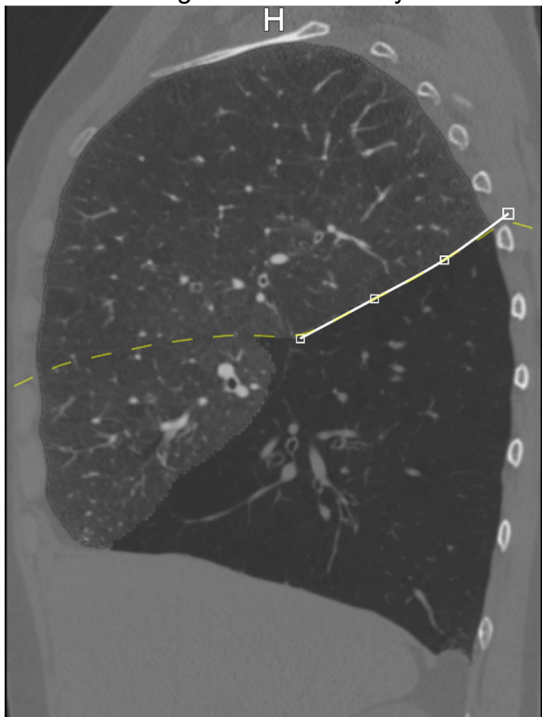
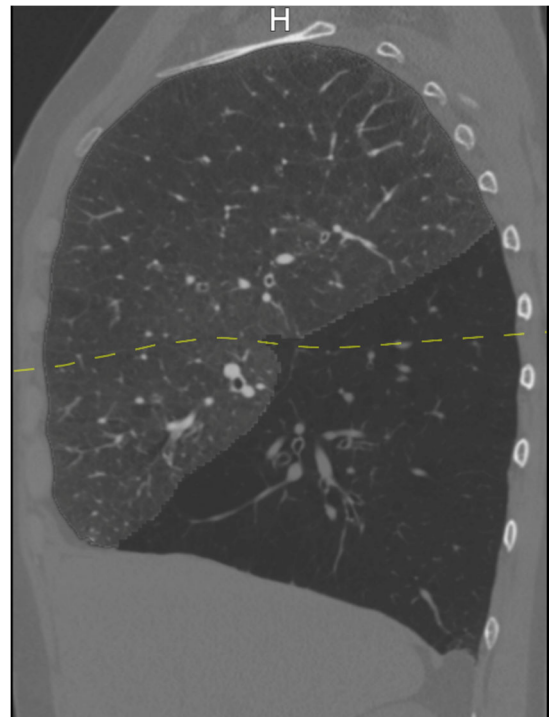

Figure 7: Incorrect Correction Example
Figure 8: Correct Correction Example
4. For right minor boundary corrections, the lobar boundary line should extend into the right lower lung (RLL), bisecting the RLL and NOT follow the right major fissure. Please refer to Figure 8 for the suggested correct correction. Figure 7 illustrates what would constitute an incorrect right minor boundary line.